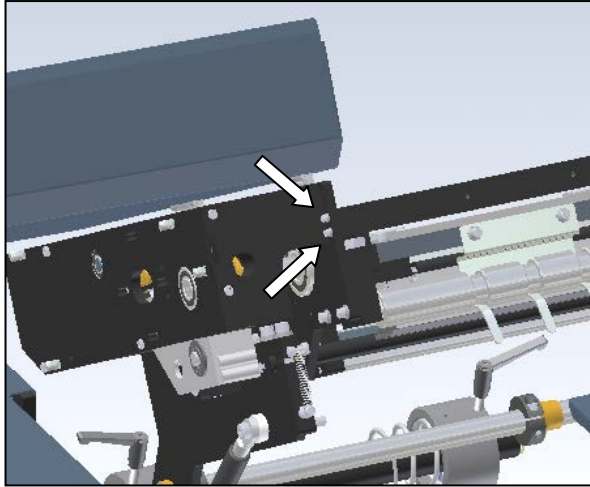

Figure 3-241. Front Cross member Screws
- Remove the front cross member bar by removing two screws shown in Figure 3-241.